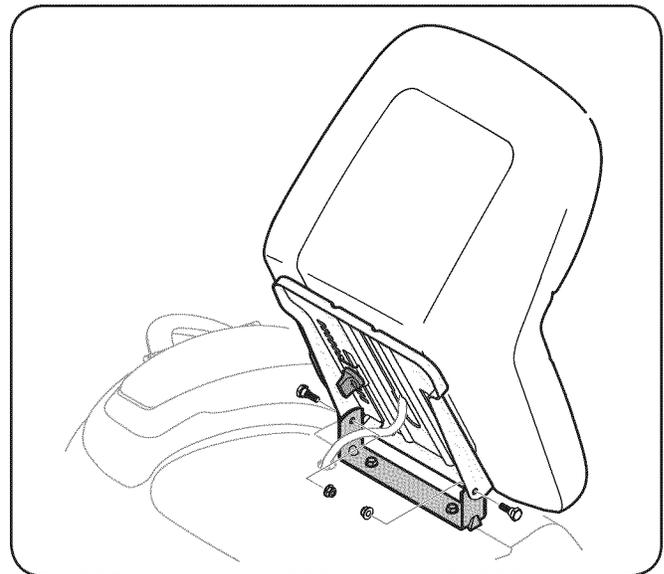

Figure 3-4
3. Secure the seat pan using the two shoulder bolts removed in step 1, and secure with the flange lock nuts also previously removed. See Fig. 3-4. Make sure that the seats pivots freely.
4. To adjust the position of the seat, loosen the adjustment knob (see Fig. 3-4) on the bottom of the seat until the adjustment tab clears the adjustment cut-outs. Slide the seat forward or backward as desired. Retighten the adjustment knob.